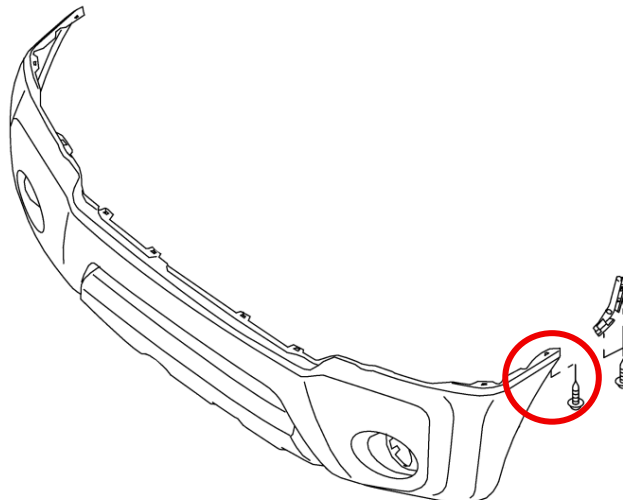

Figure 7
12. Remove the (1) one bolt on each corner of the Front Bumper. *Figure 7.*